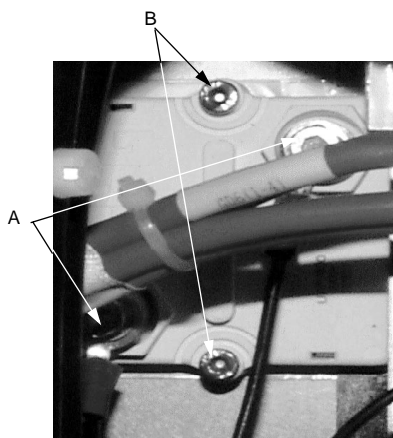

Figure 4.2.33: Discharge Resistor 1
4. Loosen and remove the two screws securing the DC bus connections to the discharge resistor (A) (see Figures 4.2.33 and 4.2.34).
5. Remove the two screws holding the discharge resistor to the heatsink (B). Using a flat blade screwdriver, gently pry the discharge resistor up from the heatsink (see Figures 4.2.33 and 4.2.34). Be careful not to damage the surface of the heatsink.
2. Place the discharge resistor on the heatsink and secure with two mounting screws (**B** in Figures 4.2.33 and 4.2.34 on page 4.2.62). Torque the screws to 18 lb-in (2 N•m).
3. Replace the DC bus connections to the discharge resistor (**A** in Figures 4.2.33 and 4.2.34) and secure with two screws. Torque the screws to 34 lb-in (3.8 N•m).